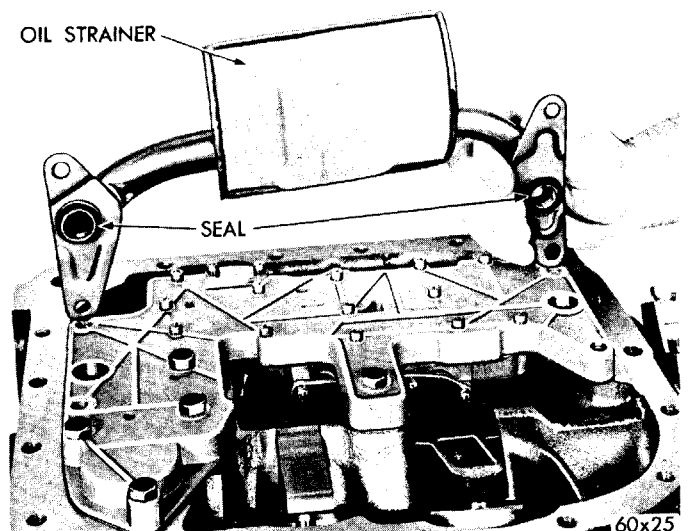

Fig. 92—Installing Oil Strainer on Valve Body and Transfer Plate Assembly
(4) Install the cable adapter stud nut and tighten securely.
(5) Install the transfer plate bolts (leaving four holes vacant to attach oil strainer), draw down evenly and torque to 14-16 foot-pounds.
(6) With the sealing washers on ends of strainer tubes, place strainer in position on the transfer plate, install remaining bolts and torque to 14-16 foot-pounds, Fig. 92.
(7) Install neutral starter switch and sealing washer and torque to 15-20 foot-pounds. Make sure manual lever contacts switch plunger when in neutral position.